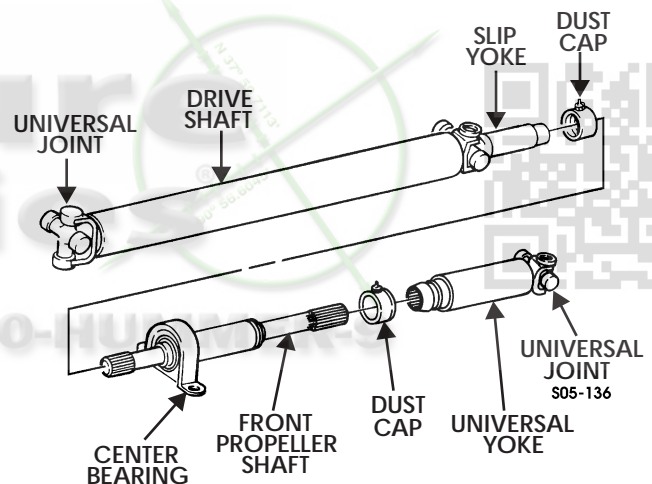

Figure 5-190: Front Shaft
1. Place slip yoke in vise. Pry dust cap off slip yoke (Figure 5-190).
4. Install dust caps on front propeller shaft (Figure 5-190).